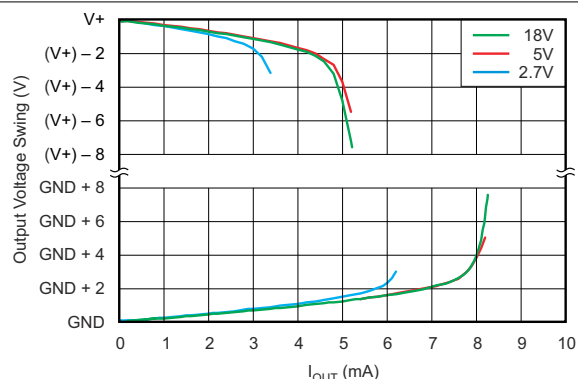
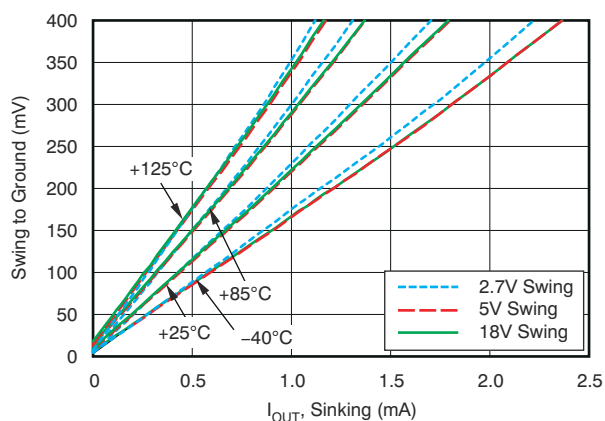

Figure 6-16. INA284-Q1 Output Voltage Swing vs Output Current
Figure 6-18. INA283-Q1 Swing to Ground vs Output Current
- (5) See typical characteristic graphs Figure 6-16 through Figure 6-18.